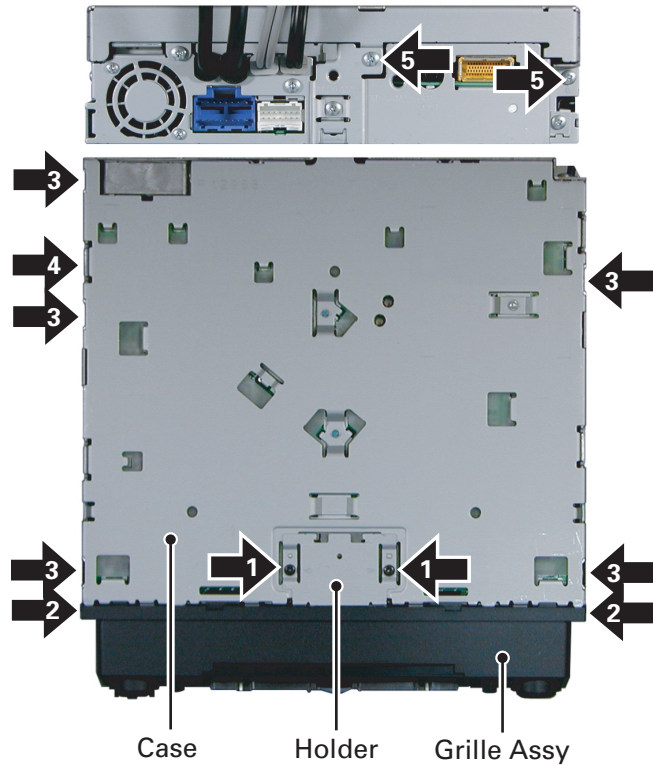

Fig.1
● Removing the Grille Assy (Fig.1)
- ➔ 3 Remove the five screws.(Fig.1)
- ➔ 4 Remove the screw.(Fig.1)
- ➔ 5 Remove the two screws and then remove the Case.(Fig.1)